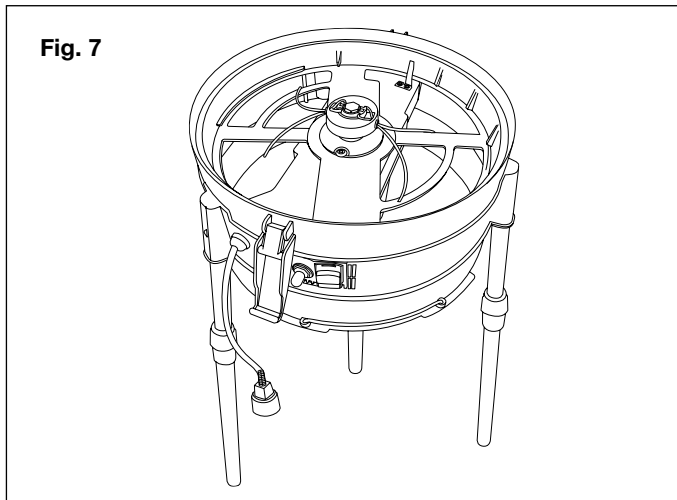

Fig. 7
1. Make sure the motor housing sits securely on the three legs (Fig. 7).